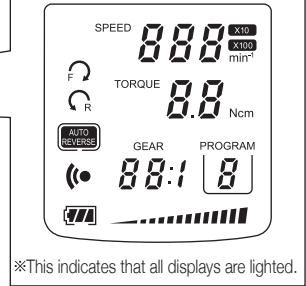

Fig. 2
- ① Control Unit
- ② Operation Panel
* See Fig. 2 "Operation Panel and LCD Panel."
- ③ LCD Panel
· See Fig. 2 "Operation Panel and LCD Panel."